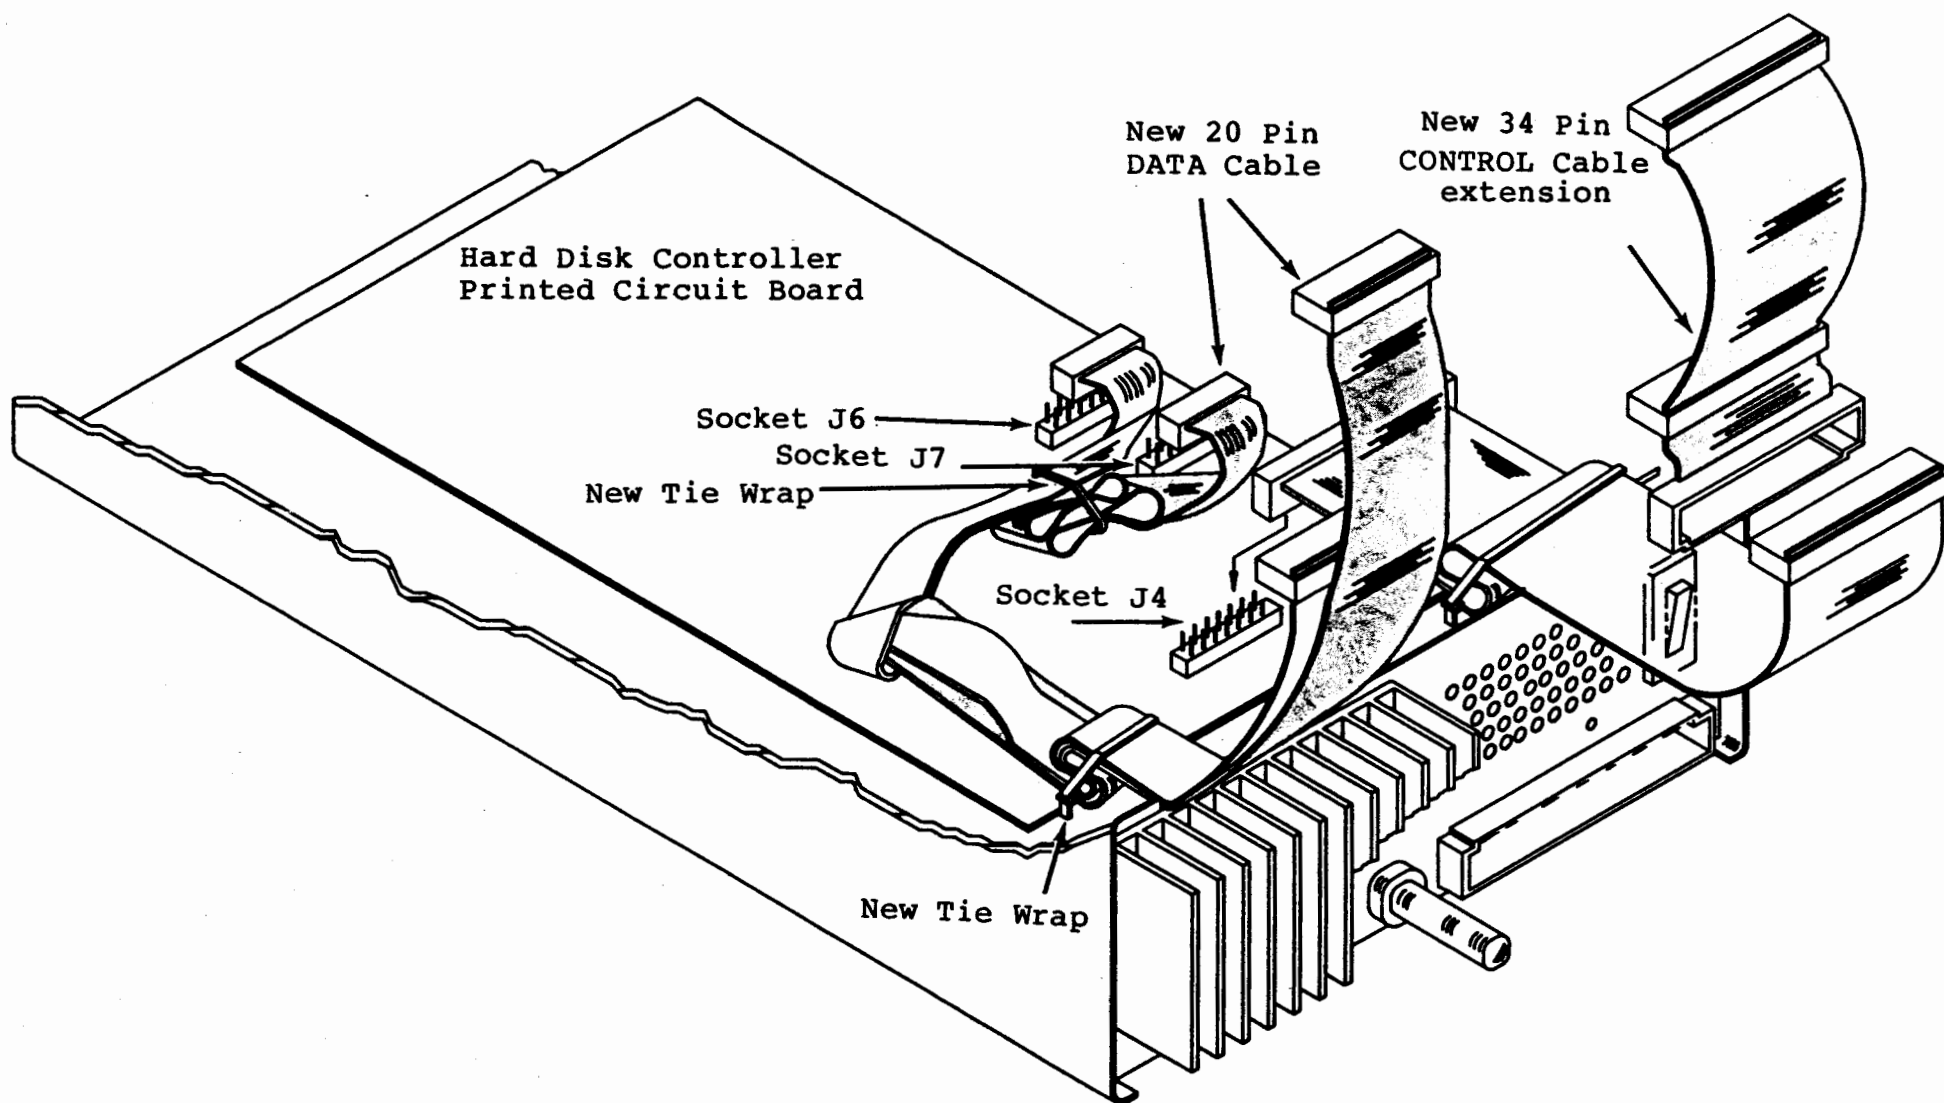

Figure 3
2. Refer to Figure 3. Locate the 20 pin connector strips labeled J6 and J7 on the printed circuit board. J7 should have no connection at this time. Do not remove the cable presently connected to J6. Instead follow the cable from J6 to the plastic tie wrap just above and behind the heat sink. Cut the tie and discard it. Unwrap the cable and extend it fully.
3. Orient the new 20 pin data cable (the longer of the two) so that the copper foil strip on the cable is furthest from the circuit board. If you are installing this cable kit with the full-height 10- 15- or 35-megabyte hard drive, then orient the connector as shown in Figure 3 so that the cable comes from it toward the heat sink end of the board. If you are installing this cable kit with the thin-line 10-megabyte hard drive, then orient the connector so that the cable comes from it away from the heat sink end of the board (toward J6). Push the 20 pin socket onto the pins of J7. Do not force the connector.
4. Layer and fold both cables (from J6 and J7) according to Figure 3 so that the new cable from J7 lies under the existing cable from J6 and that the copper foil on the new cable is placed firmly against the metal ledge above the heat sink. Secure both cables with the new, longer tie wrap supplied. Wrap the other tie around the folded sections adjacent to sockets J6 and J7.
5. Insert the short 34 pin extension cable into the socket of the cable originating from J4, oriented as shown in Figures 3 and 4.